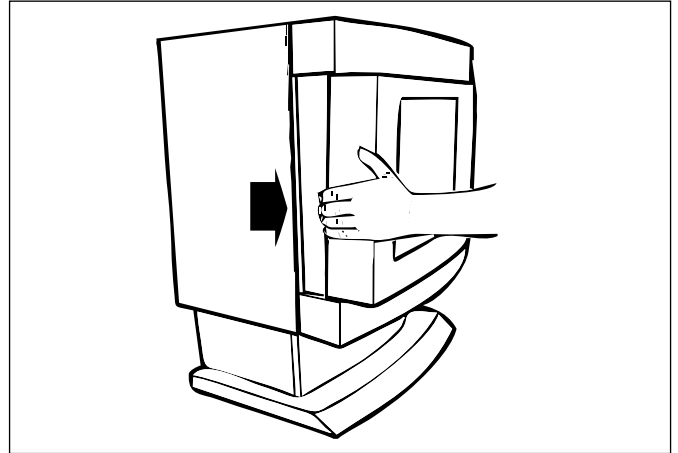

FIG 6
2. Remove the front glass surround by holding it firmly on either side and pulling it towards yourself. Refer **FIG 6**.